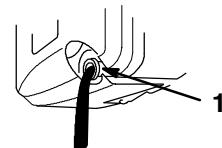

Figure 19
5. Tip the lawn mower onto its left side (air filter up), allowing the oil to drain into an appropriate container (Fig. 19).